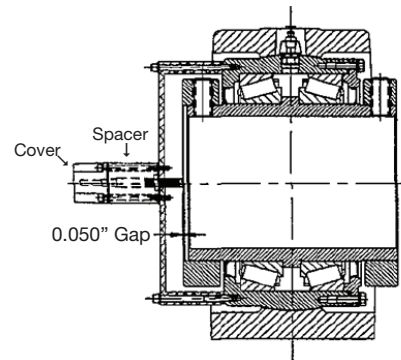

Figure 1 - TAF with Proximity Switch Installed to 0.050" Gap
1. Rotate the bearing until the raised portion of the collar aligns with the hole for the proximity switch. Screw the proximity switch into the end cover until it bottoms out on the raised portion of the collar. (Refer to Figure 1.)